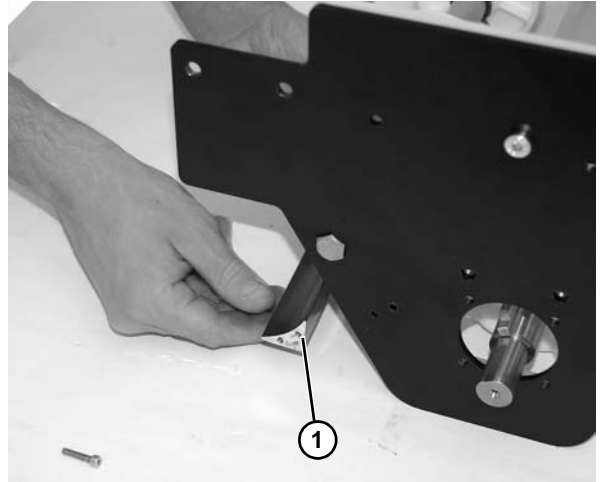

**Figure 49**
8. Remove two socket head screws (**Figure 49, item 1**) on both sides of the conveyor.